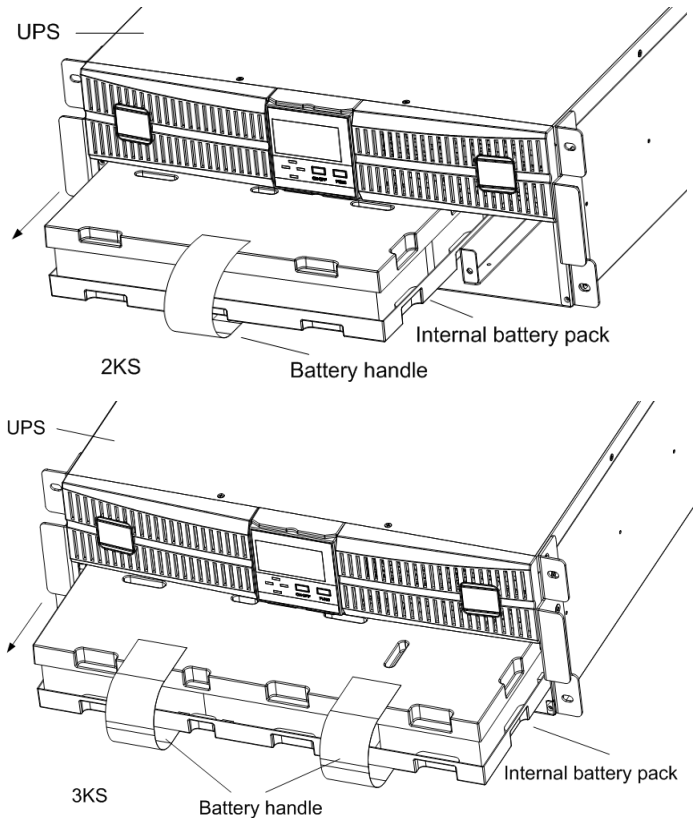

Fig.7-3 Pulling out the internal battery pack
Step 4: Grasp the battery handle, and pull the internal battery pack out of the UPS, as shown in Fig.7-3.